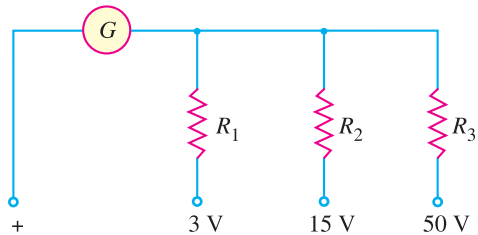

Fig. 22.29
2. The three range voltmeter is arranged as shown in Fig. 22.29. The ranges are 0 to 3 V, 0 to 15 V and 0 to 50 V as marked. If the full scale deflection current is 10 mA, what should be the values of R_1 , R_2 and R_3 ? The resistance of the meter is 5 Ω.